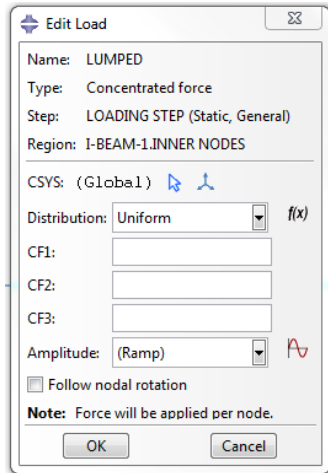
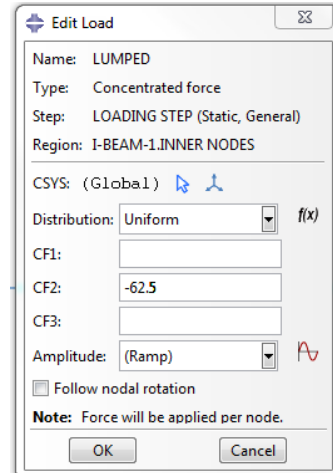

Figure 38a. Edit Load Dialog Box
Figure 38b. Edit Load Dialog Box (LUMPED)
- The **Edit Load** dialog box will immediately appear (Figure 38a). Enter a value of **-62.5** in the **CF2:** option. This will enter a force of 62.5 lbs in the – Y direction at each of the interior nodes in the selectedset. The **Edit Load** dialog box should look identical to that in Figure 38b.